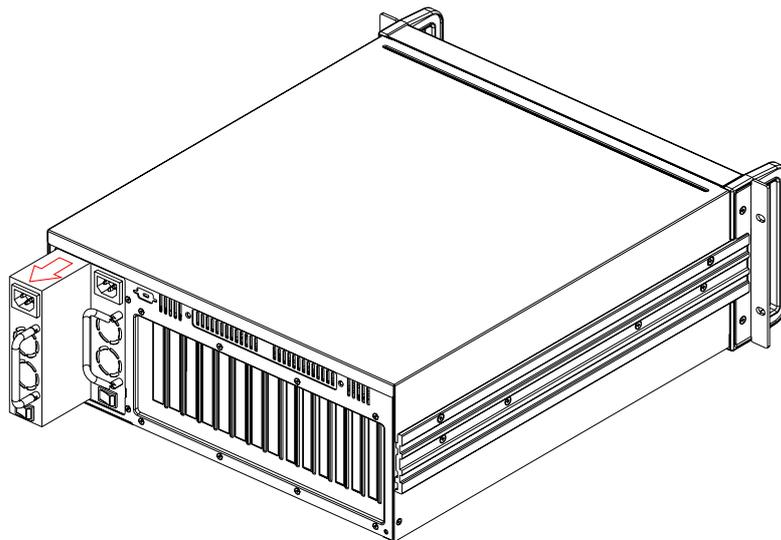

Figure 3.11 Replacing the power supply module
3. Loosen the screw on the failed module and then grab the handle to gently pull it out. (see Figure 3.11).